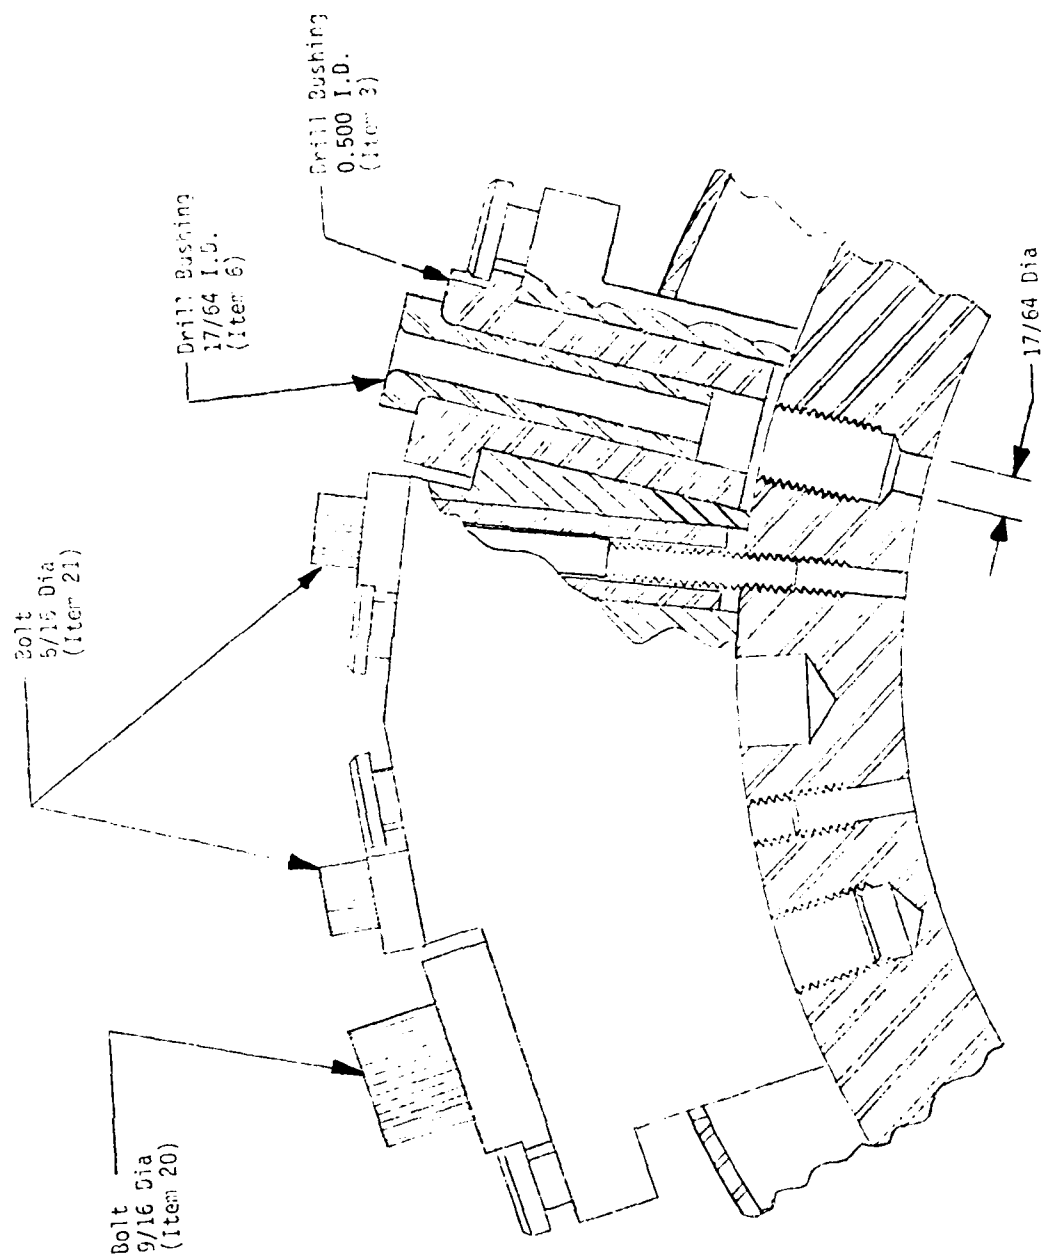

Figure 3. Keensert installation: Drill fixture in place with two bolts and pilot hole drilled in wing mounting hole.
19. Insert the  $\frac{1}{2}$ -inch I.D. drill bushing (Item 3) into the 1-inch-diameter hole in the drill fixture and insert the 17/64-inch I.D. bushing (Item 6), as shown in Figure 3.
20. Use the 17/64-inch-diameter drill bit (Item 11) to drill through the missile center ring, as shown in Figure 3. Use vice grip pliers, as needed, to hold the 17/64-inch I.D. bushing and prevent it from rotating.